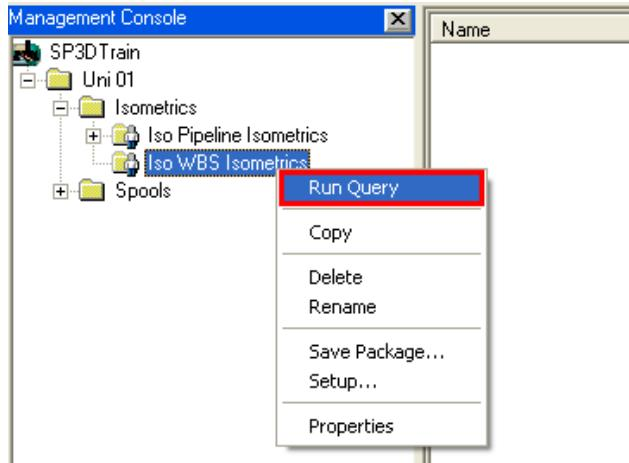

Figure 13: Run Query Option
18. Right-click the **Iso WBS Isometrics** component in the **Management Console** and select the **Run Query** option, as shown in Figure 13. SP3D uses the query defined in the **Iso WBS Isometrics** component to find the WBS items with **Iso Fabrication** in the model and displays the result of the search in the drawing hierarchy.